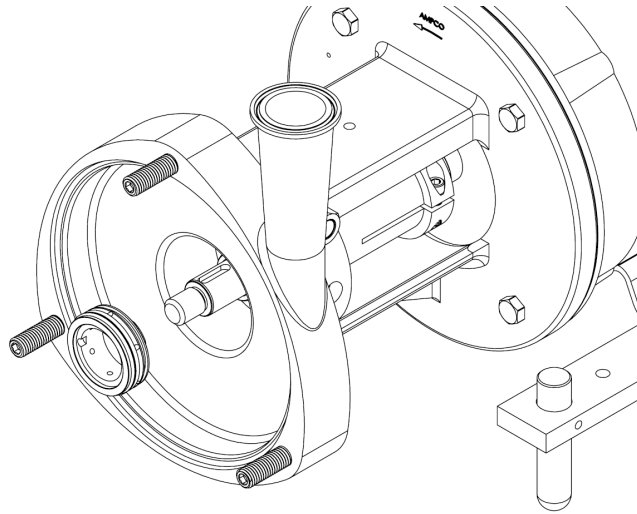

Figure 7
9. Remove stationary seal once pushed out of its' bore. See figure 7.